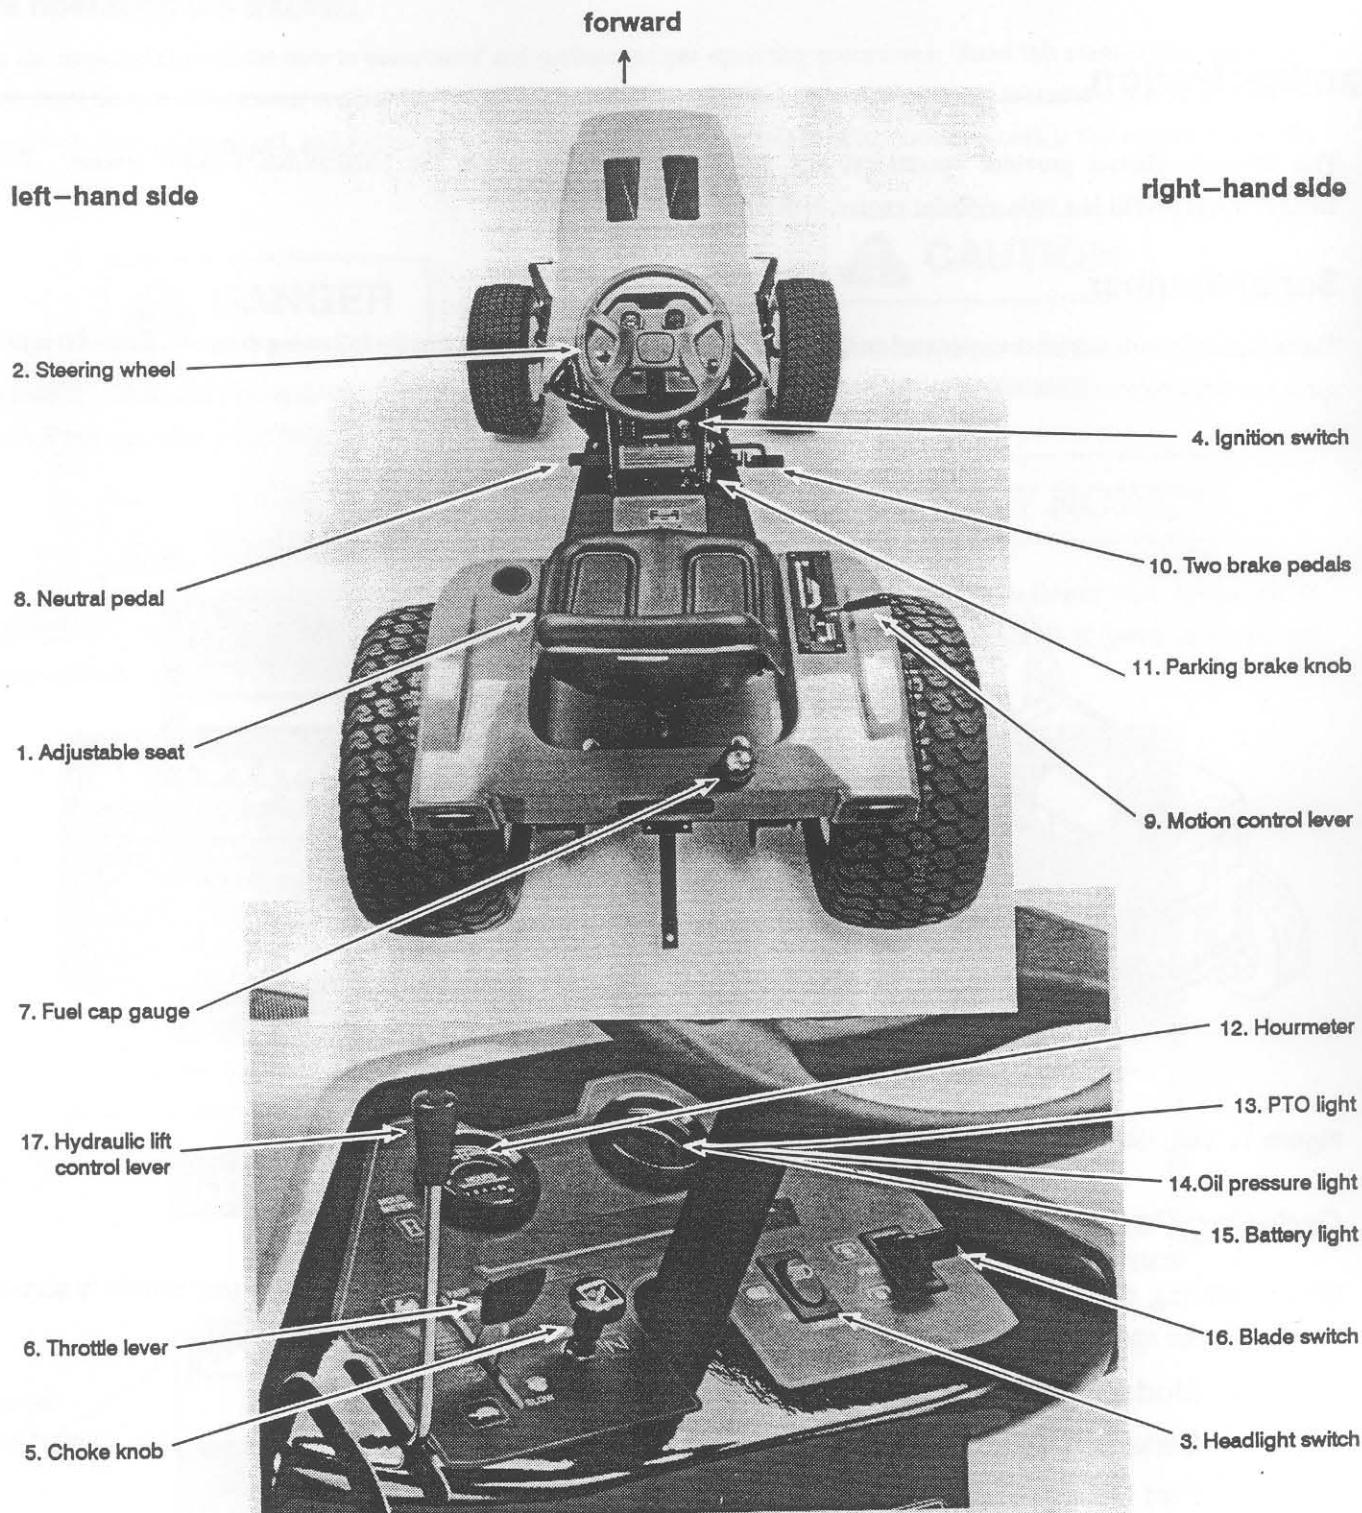

Figure 2. Operator controls.
The tractor controls and gauges are shown in Figures 2 through 8 and described as follows. Locate these controls on your tractor and know how to use them before operating the tractor.
1. **ADJUSTABLE SEAT** – moves forward or back, up to 3" (Refer to Figure 2).
2. **STEERING WHEEL** – controls the front wheels of the tractor for steering (Refer to Figure 2).
3. **HEADLIGHT SWITCH** – controls the tractor's headlights (Refer to Figure 2).
4. **IGNITION SWITCH** – starts and stops the engine. This is a 3-position, key-actuated switch (Refer to Figures 2 & 3).
5. **CHOKE KNOB** – provides richer fuel-air mixture in the engine's carburetor for cold starting (Refer to Figure 2).
6. **THROTTLE LEVER** – controls the engine speed (Refer to Figure 2).
7. **FUEL CAP and GAUGE** – shows fuel level and unscrews for dispensing of fuel into tank (Refer to Figures 2 & 4). Use only unleaded, minimum octane 87 gasoline.
8. **NEUTRAL PEDAL** – puts the tractor in neutral. Fully depress the pedal to put the transmission (and speed & direction control lever) in neutral, slowing the tractor (Refer to Figures 2 & 5 and refer to "Tractor Operation" starting on page 10 in this manual).
9. MOTION CONTROL LEVER – hand operated to control the direction (forward/reverse) and speed of the tractor (Refer to Figures 2 & 6).
10. TWO BRAKE PEDALS – control the brakes. The pedals are located on the right-hand side of the tractor. The **LEFT PEDAL** controls the left wheel the **RIGHT PEDAL** controls the right right wheel (Refer to Figures 2 & 6).
11. PARKING BRAKE KNOB – latches the brake to lock the rear wheels. It is located on the right-hand side of the console (Refer to Figures 2 & 6).
12. HOURMETER – tells number of hours the tractor has operated. (Refer to Figures 2 & 7). It runs when ignition switch is “ON.” Do not leave ignition “ON” when engine is not running. Use hourmeter as a guide for when to do scheduled maintenance.
13. PTO LIGHT – illuminates when (optional) PTO is engaged. (Refer to Figures 2 & 7).
14. OIL PRESSURE LIGHT – signals low oil pressure when lit. (Refer to Figures 2 & 7). It illuminates momentarily when the ignition switch is “ON”, but the engine is not running (e.g., during starting sequence).
15. BATTERY LIGHT – illuminates when battery is discharging. (Refer to Figures 2 & 7). It lights momentarily during starting sequence. It should be off when the engine is running above idle. If not, shut engine off and refer to “Troubleshooting” on page 15 in this manual.
16. BLADE SWITCH – starts and stops the electric clutch on the front of engine for the power take off (PTO). The electric clutch drives all rotary implements. (Refer to Figures 2 & 8)
– controls all attachments. It is linked to a hydraulic control valve. (Refer to Figures 2 & 8)